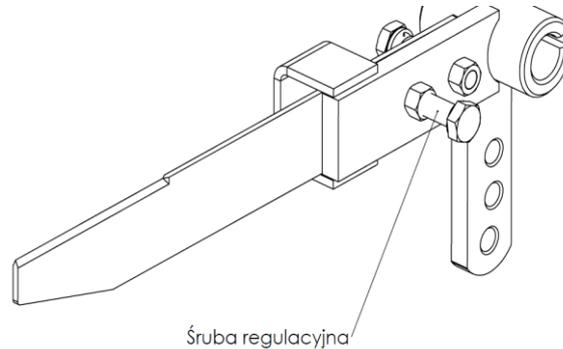
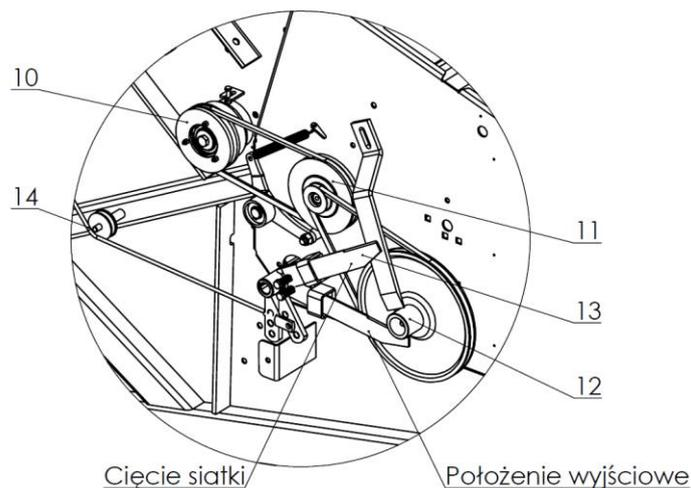

Figure 16 Location of the measurement blade
Figure 17 Adjusting the bind counter - the adjusting screw
You can set the length of the bale binding with the adjusting screw (Fig. 16). Tighten the adjusting screw to move the measurement blade (13) further from the belt wheel (12), and decrease the binding length, as shown in Fig. 17. Determine the number of binding turns according to the harvest condition. The manufacturer's recommended number of binding turns is 1.5 to 2.5 bale turns.
The measurement blade (13) location in the baler is shown in Fig. 17. The measurement blade, controlled by a revolving motion after slipping from the hub thread of the belt-wheel casing (12), makes the blade impact the counter knife and cut off the binding net.